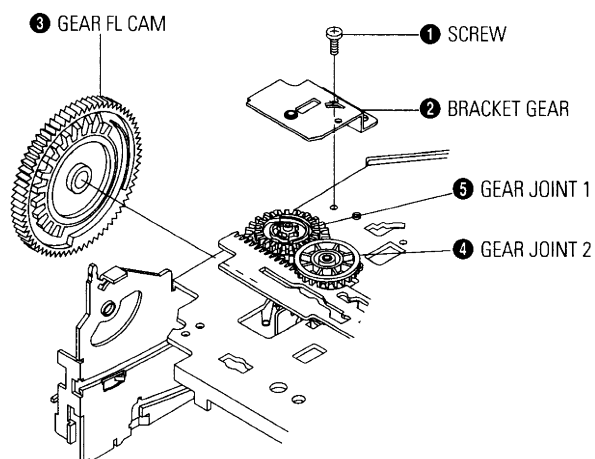

Fig. 4-14 Bracket Gear, Gear FL Cam, Gear Joint 1, 2 Removal
- 1) Release the Hook [A] in the direction of arrow and, remove the Holder Worm ❶.
- 2) Remove the Gear Worm ❷.
- 3) Remove the Gear Worm Wheel ❸. (After removing the Gear FL Cam as shown Fig. 4-14)
**Note :** Secure the Hook [A] after installing the Holder Worm ❶.